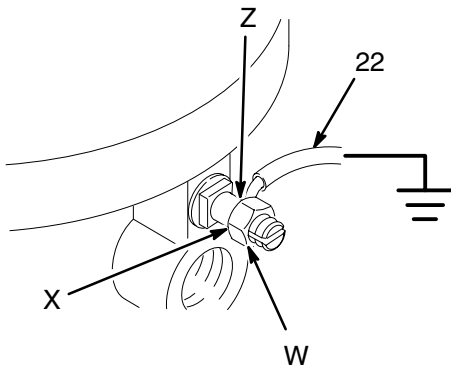

Fig. 2
1. *Pump*: use the ground wire and clamp (supplied). See Fig. 2. Loosen the grounding lug locknut (W) and washer (X). Insert one end of the ground wire (22) into the slot in lug (Z) and tighten the locknut securely. Connect the other end of the wire to a true earth ground.